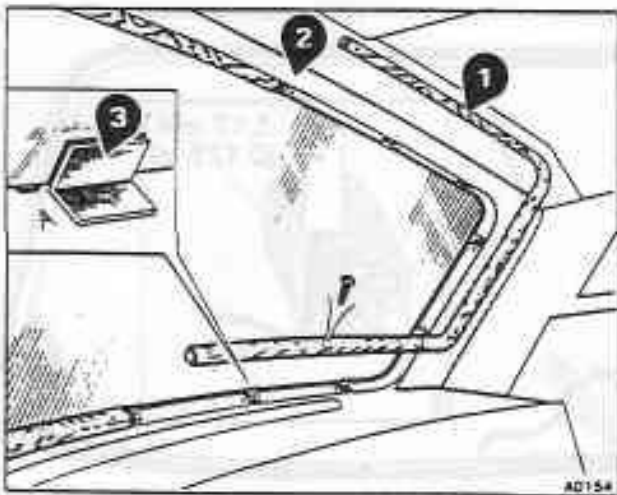

Fig. S11-9 Rear window interior trim
9. Remove both halves of the polished wood window surround (see fig. S11-9, item 1).
10. Unclip and remove the rear window trim panel (see fig. S11-9, item 2).
12. Prior to removing the glass retaining brackets (see fig. S11-9, item 3), individually mark each one to ensure they are fitted in their original positions.